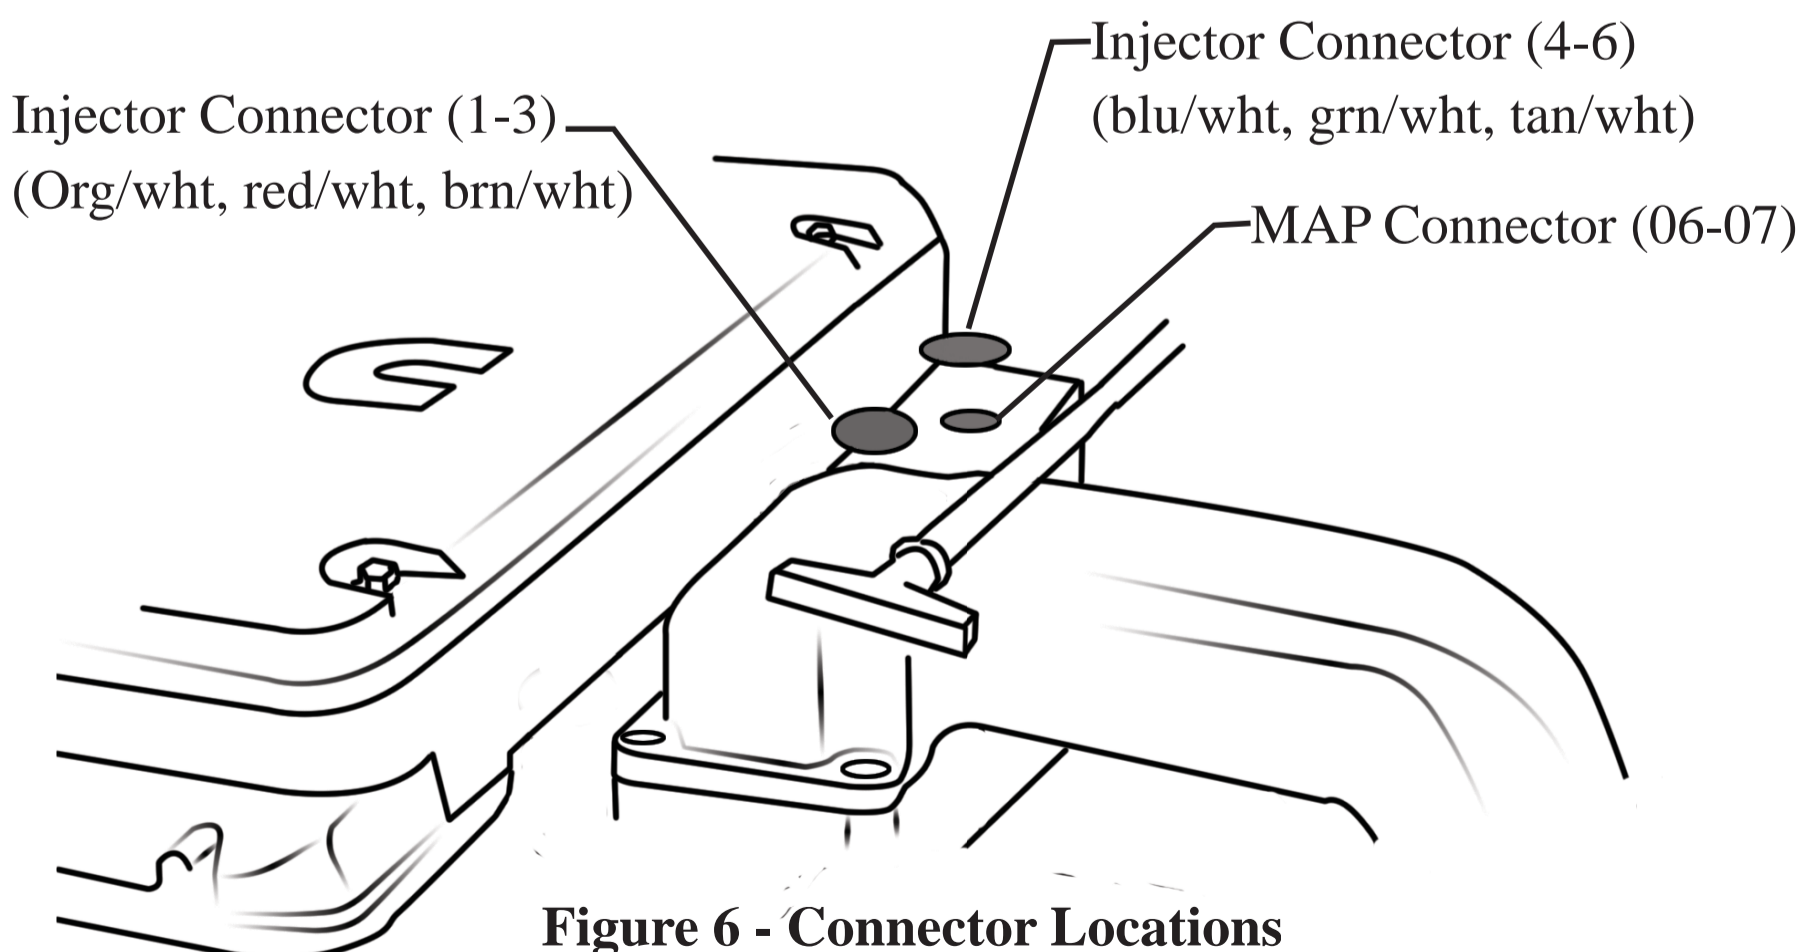

Figure 6 - Connector Locations
1. Locate the two stock injector connectors. (Figure 6)
1. Locate MAP connector. (Figure 6)